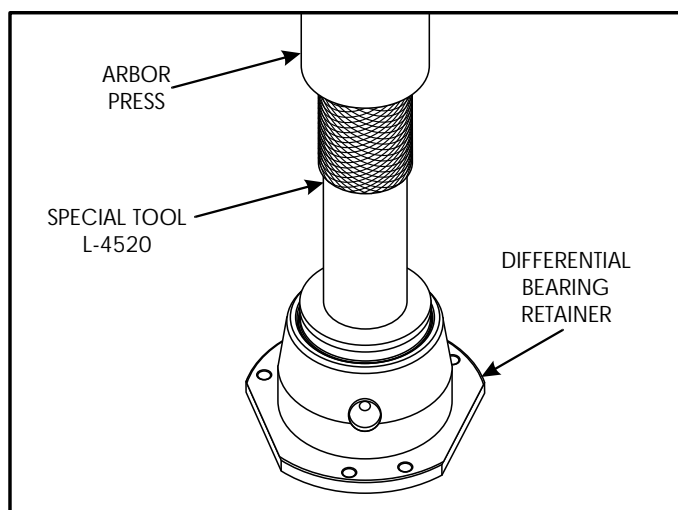

Figure 159
2. If you are starting from scratch, install a .50mm (.020") "gauging" shim, and install bearing cup into the retainer using a press, as shown in Figure 159.